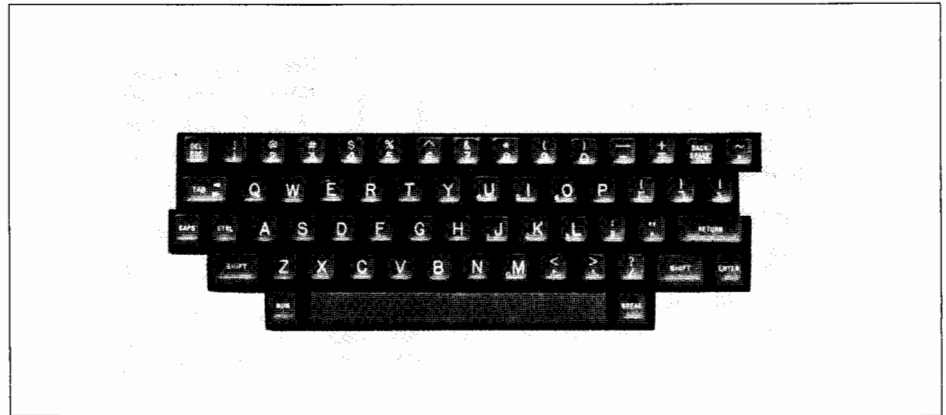

Figure 4-1. 2621B Standard Keyboard Character Set Group
- **Character Set Group.** The layout of these keys is similar to a standard typewriter keyboard (see Figure 4-1). In addition to the alphanumeric character keys, this group includes typical data terminal keys such as **BREAK**, **CTRL**, **ENTER**, and so forth.
The standard keyboard can generate the entire ASCII character code set (see Appendix A). Figure 4-1 shows the Character Set Group.